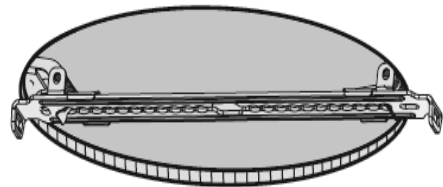

Fig. 3
- Lift both springs and fit into the ceiling (see Fig. 3)